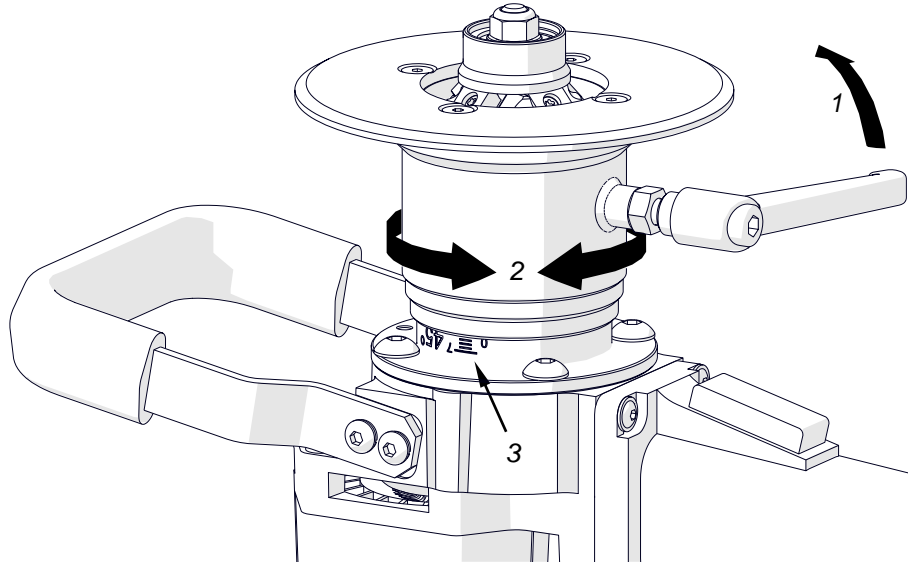

Fig. 5. Adjusting the bevel width
Unplug the machine from the power source. Next, loosen the lever (1, Fig. 5), rotate the sleeve (2) so that the scale 3 shows the required bevel width, and then retighten the screw.